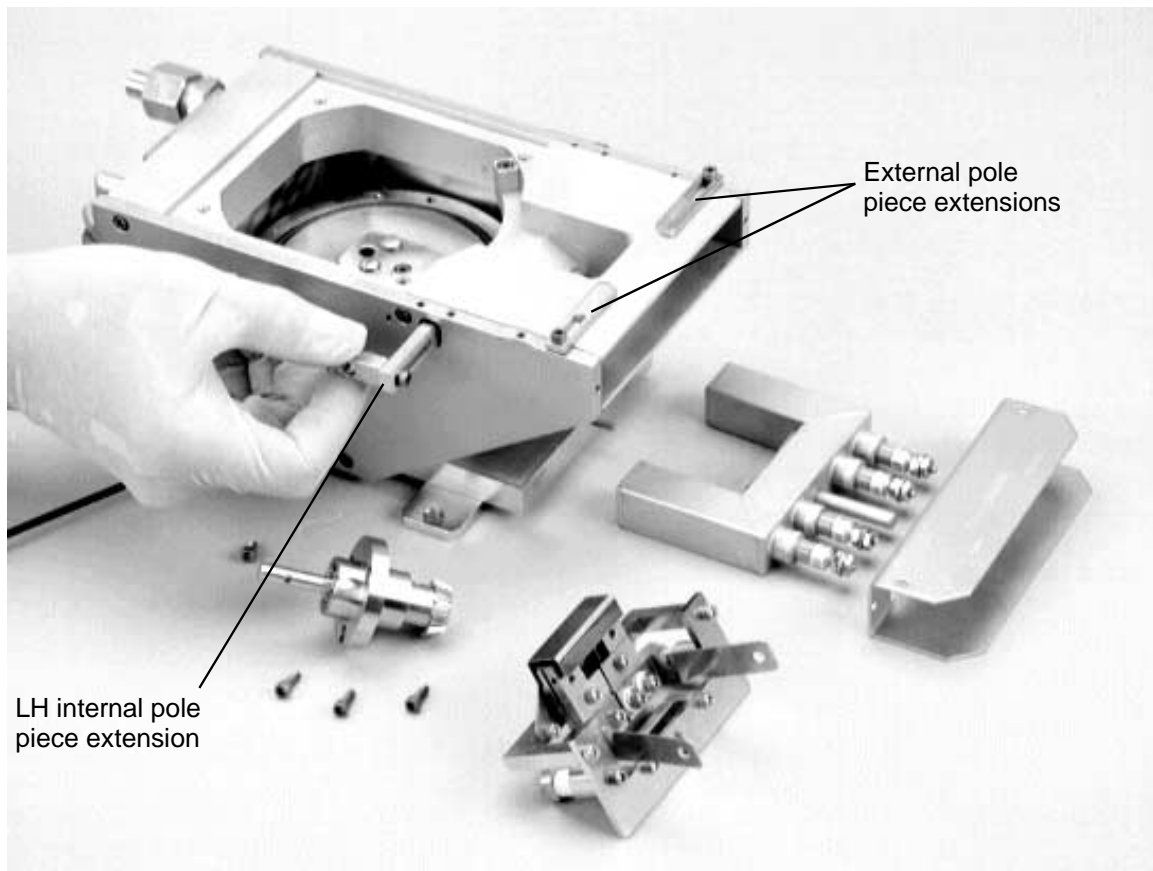

Figure 5-10. Withdrawing the external pole-piece extension
Step 10: Pull the internal pole piece extension out of the source, as shown in Figure 5-10.